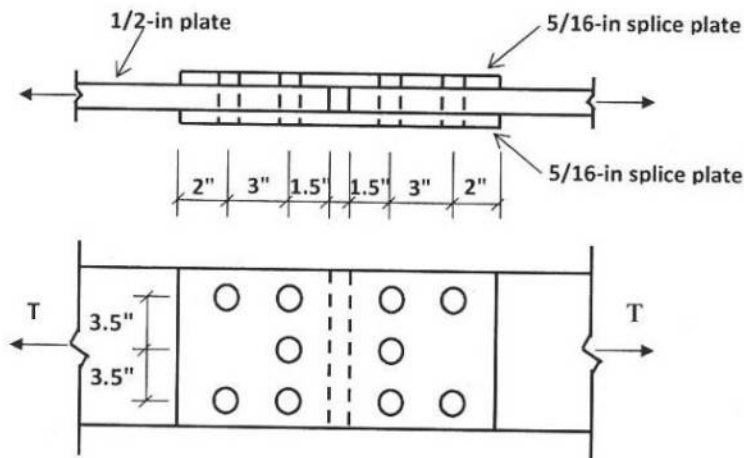

Fig. 1
- Using AISC/ASD method, determine the block shear allowable load for the joint shown in Fig. 1. Fasteners are $\frac{7}{8}$ " A-325 bolts in standard holes. All plates are A36 steel. See Annexure-1. 8 $\frac{1}{3}$